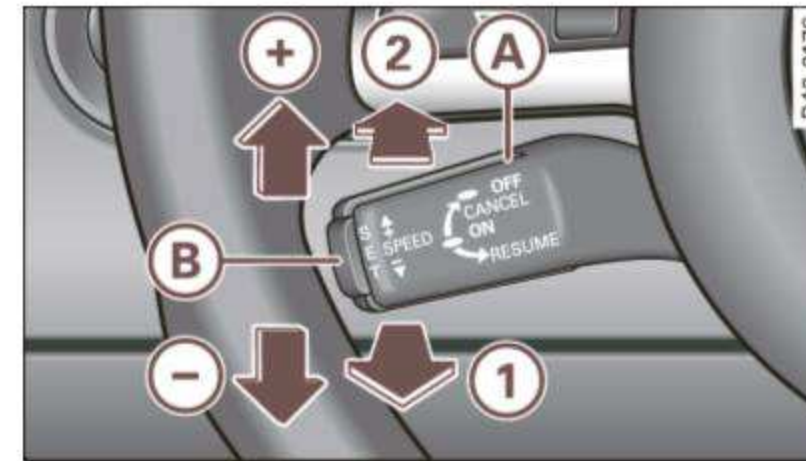

Fig. 68 Cruise control system controls
- Pull the lever (A) to position (1) ⇒ fig. 68 to switch the system on.
- Briefly press button (B).
- Press lever (A) up towards the (+) ⇒ fig. 68.
- Press lever (A) down towards the (-) ⇒ fig. 68.
The desired speed is increased by about 2 mph (2 km/h) by briefly pressing lever **(A)** upwards towards \Rightarrow fig. 68 **(+)**.
The desired speed is decreased by about 2 mph (2 km/h) by briefly pressing lever **(A)** downwards towards \Rightarrow fig. 68 **(-)**. ■
- Press the lever **(A)** towards **(2)** (not latched) \Rightarrow page 85, fig. 68.
If no desired speed was stored when the system was temporarily switched off, you can store a new desired speed as follows: Drive at the desired speed and briefly press button \Rightarrow page 85, fig. 68 **(B)** (SET).
- Press lever **(A)** into position **(2)** (latched) \Rightarrow page 85, fig. 68.